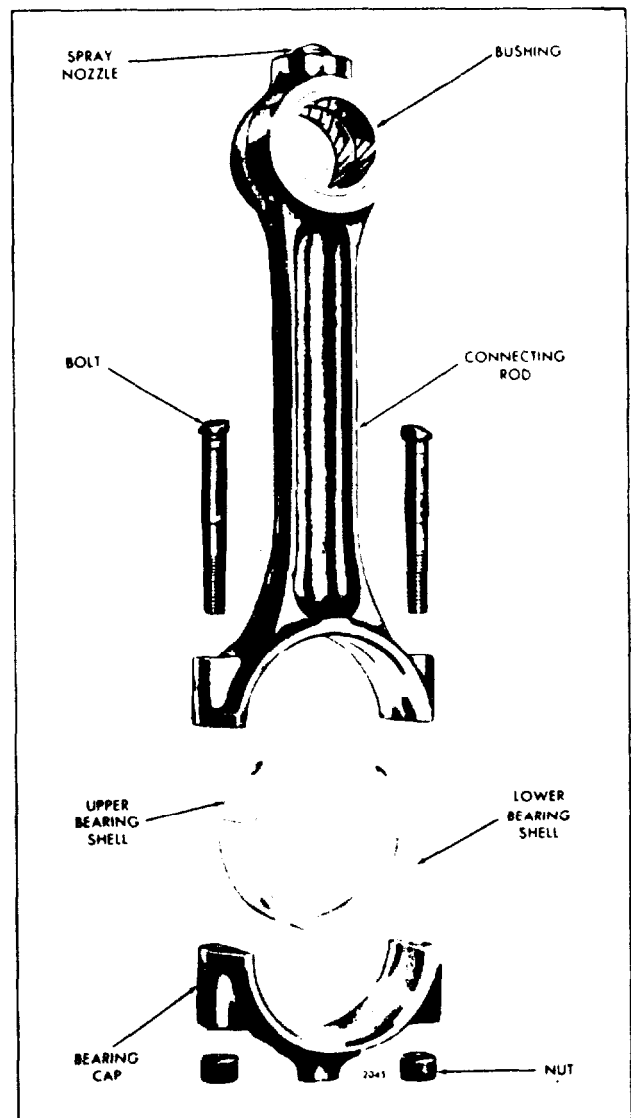

Fig. 2 Connecting Rod Details and Relative Location of Parts
1. Starting with the bottom ring, install the compression rings with tool J 8128 as shown in Fig. 2. To avoid breaking or overstressing the rings, do not spread them any more than necessary to slip them over the piston.